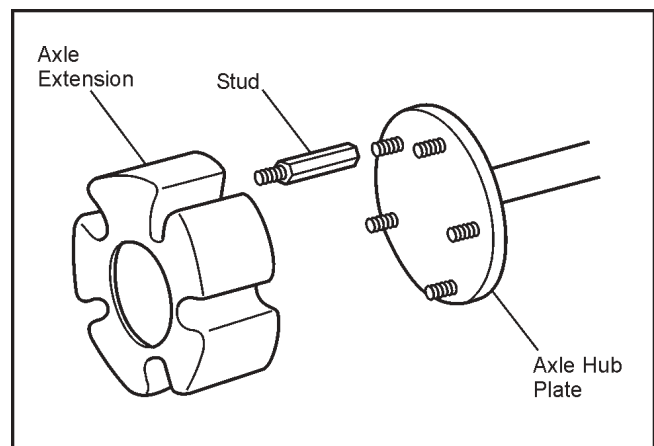

Figure 11-3. Installing the Axle Extensions.
5. Install the extension studs on all of the vehicle wheel studs and tighten securely with a 5/8" socket. See Fig. 11-3.